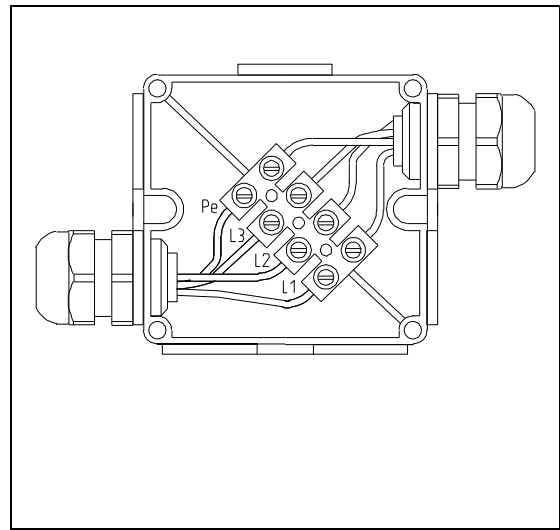

Figure 13
- 2 The cable has to be connected to the electric fitting (Figure 13):